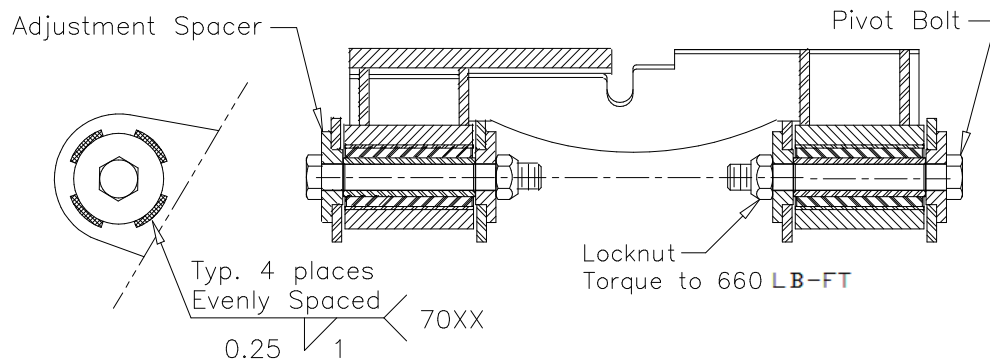

Figure 1: Front Pivot Bolt Inspection
Check front pivot bolts and adjustment spacers for proper installation. The bolts are 1", Grade 8 bolts and the Grade C locknuts are torqued to 660 LB-FT. Inspect adjustment spacers for weld. See Figure 1 below.
10. Weld adjustment spacers as described on Sheet 2 of drawing #9783 or Figure 1 on page 10 of this manual.